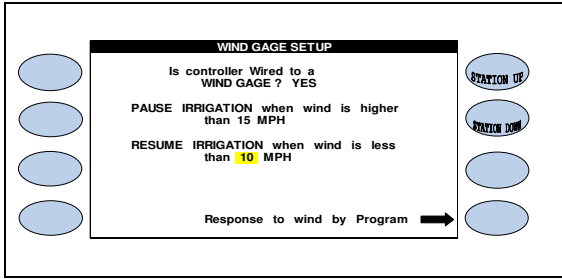

Figure 6
To set the Miles Per Hour that you want the controller to resume irrigation at, (Figure 6).
8.  Press the **PLUS** or **MINUS** keys to change the speed (Figure 6).